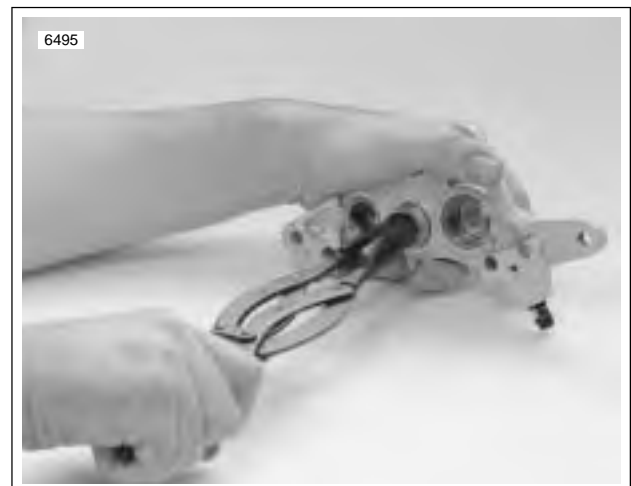

Figure 2-46. Removing Pistons (B-42887)
4. See Figure 2-46. Remove pistons using a BRAKE PISTON REMOVER (Part No. B-42887).